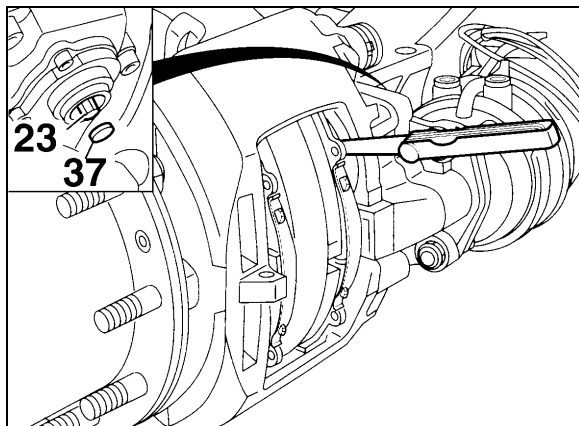

FIGURE 36: RUNNING CLEARANCE
- a) Insert a feeler gauge 0.028 inch (0.7 mm thickness) between tappet and pad back-plate (Fig. 36). Turn adjuster pinion clockwise until 0.028 inch (0.7 mm) clearance is achieved. Replace cap (37) (Prévost # 641313).
- b) To ensure a constant running clearance between the rotor and pads, the brake is equipped with an automatic adjuster unit. When the pads and rotor wear, the running clearance between the pads and rotor increases. The adjuster (23, Fig. 36) and turning device turn the threaded tubes by the amount necessary to compensate the wear.